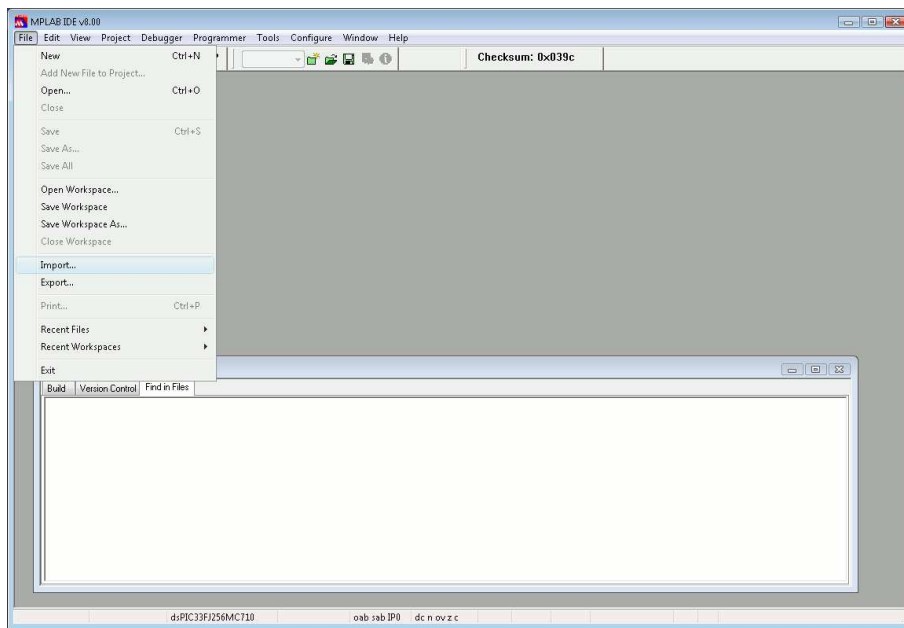

Figure 5.9: Choose “Import...” from the “File” menu to import the coff file produced in Eclipse.
9. Choose "Import..." from the "File" menu, as in Figure 5.9.